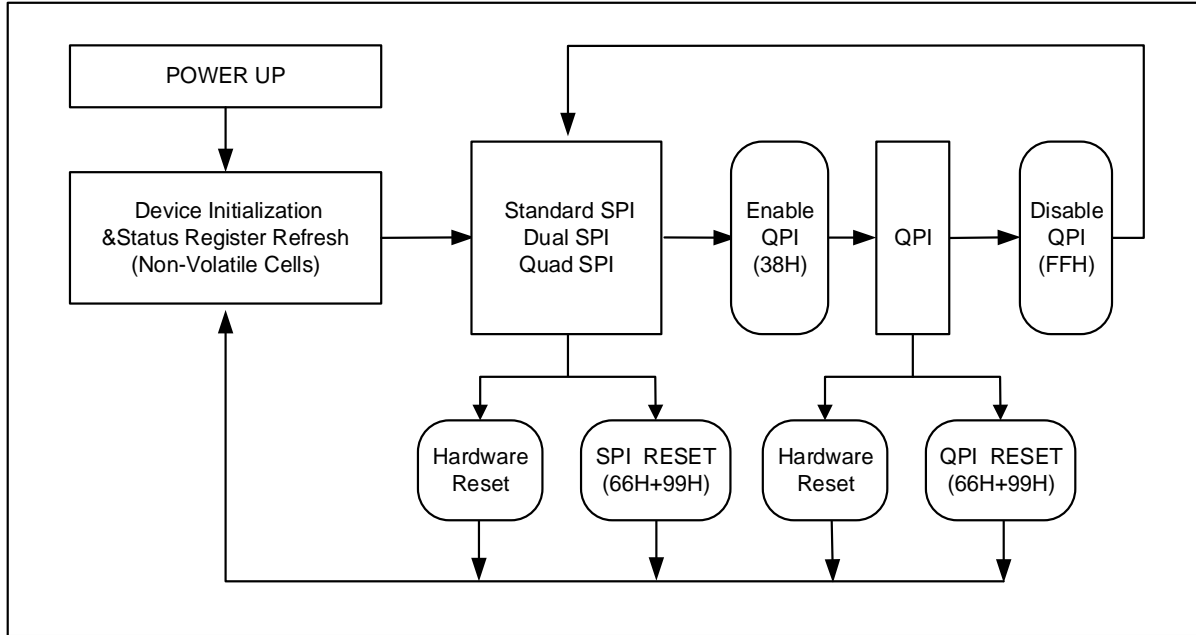

Figure 3. XM25LU64C Serial Flash Memory Operation Diagram
The XM25LU64C supports Quad Peripheral Interface (QPI) operations only when the device is switched from Standard/Dual/Quad SPI mode to QPI mode using the “Enter QPI (38h)” instruction. The typical SPI protocol requires that the byte-long instruction code being shifted into the device only via DI pin in eight serial clocks. The QPI mode utilizes all four IO pins to input the instruction code, thus only two serial clocks are required. This can significantly reduce the SPI instruction overhead and improve system performance in an XIP environment. Standard/Dual/Quad SPI mode and QPI mode are exclusive. Only one mode can be active at any given time. “Enter QPI (38h)” and “Exit QPI (FFh)” instructions are used to switch between these two modes. Upon power-up or after a software reset using “Reset (99h)” instruction, the default state of the device is Standard/Dual/Quad SPI mode. To enable QPI mode, the non-volatile Quad Enable bit (QE) in Status Register-2 is required to be set. When using QPI instructions, the DI and DO pins become bidirectional IO0 and IO1, and the /WP and /HOLD pins become IO2 and IO3 respectively. See Figure 3 for the device operation modes.